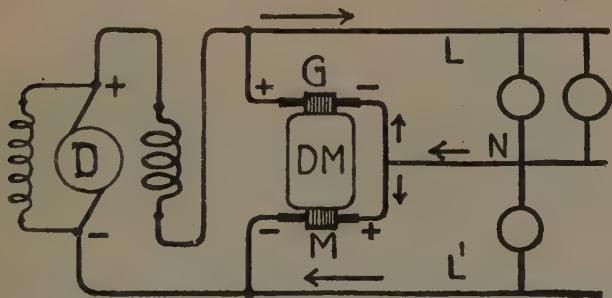

FIG. 798.—Diagram showing dynamotor connections when used as an equalizer in the three wire system. DM, dynamotor; G, generator side; M, motor side.
**Ans.** When thus used, the machine is connected as in fig. 798. When both sides of the system are balanced, there will be no current in the neutral lead N, and a small current will pass